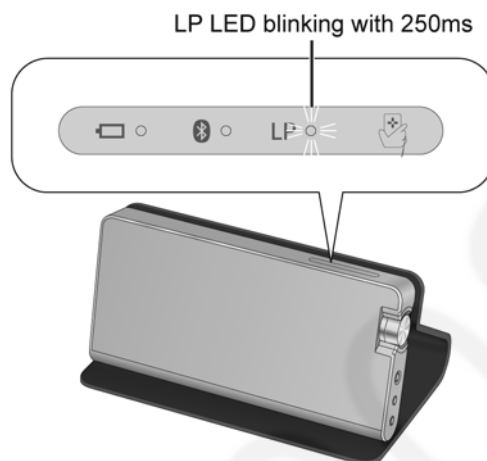

Figure 7-1
Step 3 : LP LED start blinking with 250ms (Refer to Figure 7-1).